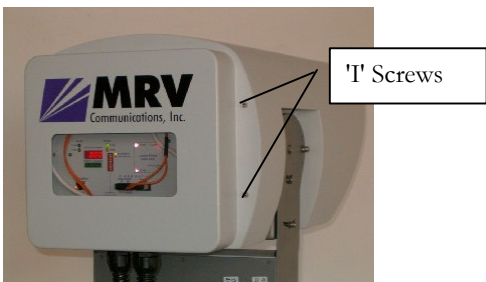

Fig. 6.1: Screws I
- 2 – Remove the Back Door by undoing the four screws I (two on each side – see Figure 6.1.)